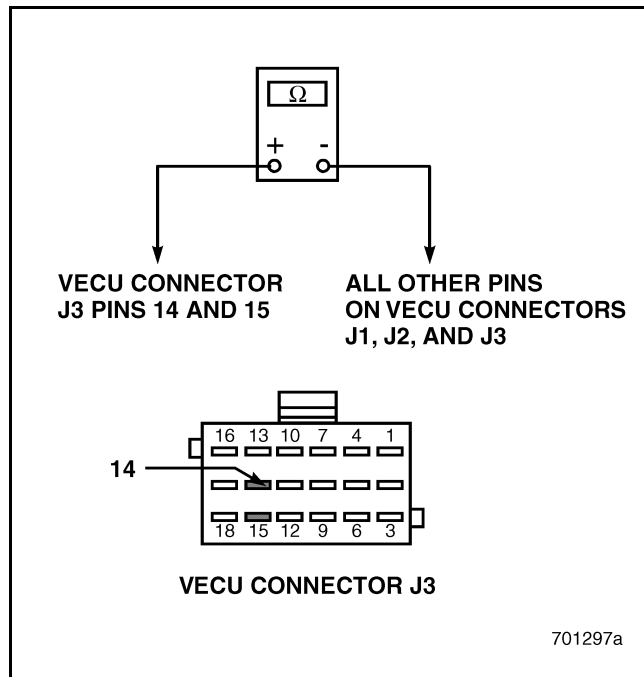

Figure 625
5. Check for continuity between Vehicle Electronic Control Unit (VECU) connector J3 pins 14 and 15 versus all other pins on VECU connectors J1, J2 and J3 (see Figure 625).